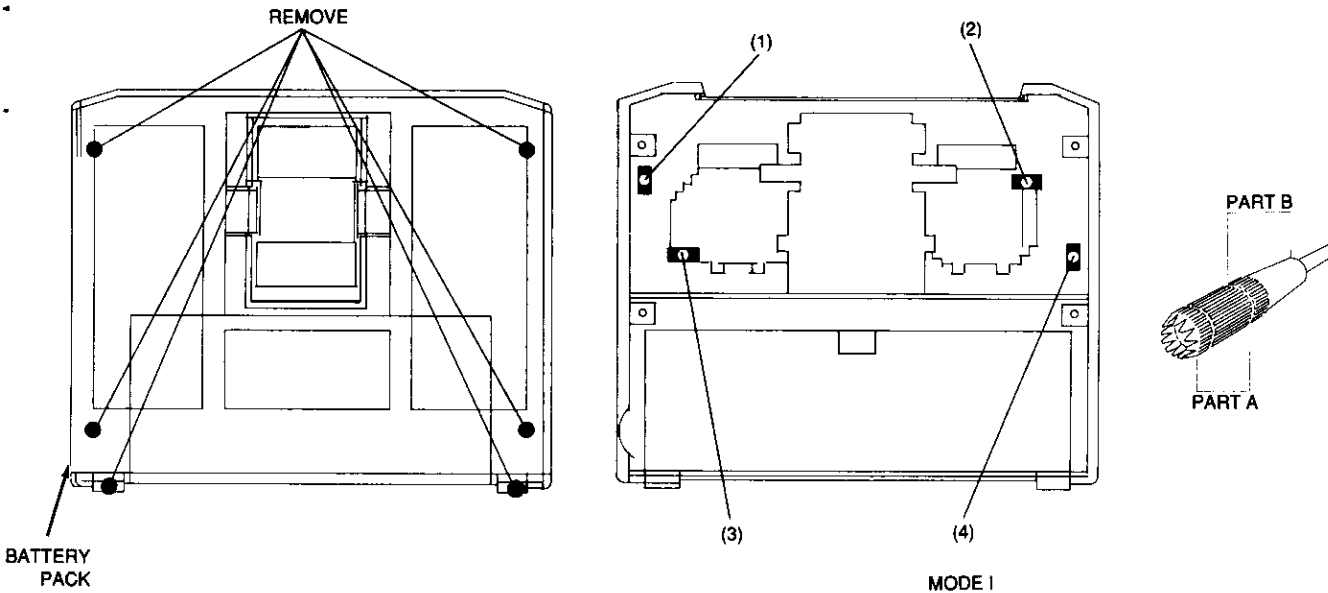

FIGURE 7
To adjust the spring tension, first remove the frequency module and battery pack as described. Then remove the six rear cover screws as indicated on the sketch below (Figure 7). Carefully pry out the side pieces slightly to allow the rear cover to clear the Stop Watch and Hover Memory controls. The rear cover can now be lifted off. Three of the four screws indicated on the right hand sketch of a Mode II transmitter will now be visible. They control stick tension as follows: (1) Elevator Mode II; (2) Rudder; (3) Aileron; (4) Elevator Mode I. Adjust the screw "in" for more tension. Do Not touch or move any other component!